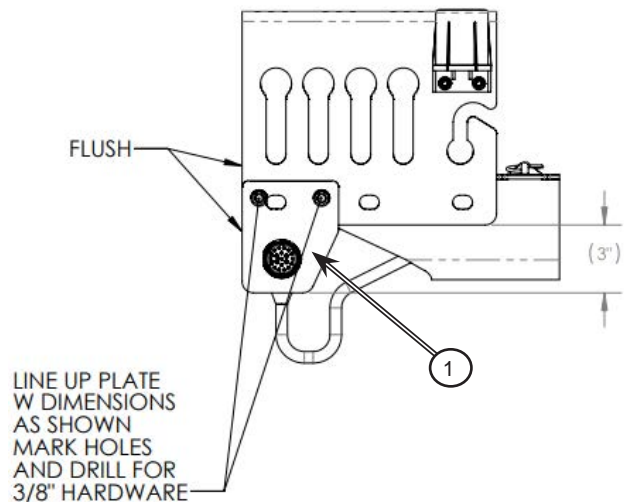

Figure 1: Drill holes in the hose holder to install the mounting plate
- b. Line up the harness mounting plate (1), as shown in *Figure 1*. Mark the holes and drill for $\frac{3}{8}$ " hardware.